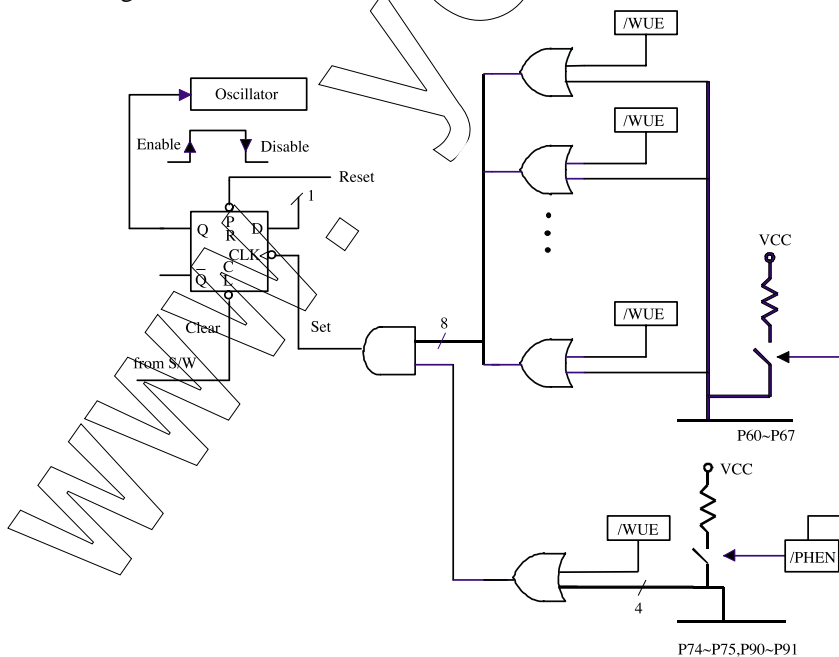

Fig. 5 Block diagram of sleep mode and wake-up circuits on I/O ports
- Bit 4 (SLPC) This bit is set by hardware at the falling edge of wake-up signal and is cleared in software. SLPC is used to control the operation of oscillator. The oscillator is disabled (oscillator is stopped, and the controller enters the SLEEP2 mode) on the high-to-low transition and is enabled (the controller is awakened from SLEEP2 mode) on the low-to-high transition. In order to ensure the stable output of the oscillator, once the oscillator is enabled again, there is a delay for approximately 18 ms (oscillator start-up timer, OST) before the next instruction of program being executed. The OST is always activated by wake-up from sleep mode whether the Code Option bit WTC is "0" or not. After waking up, the WDT is enabled if Code Option WTC is "1". The block diagram of SLEEP2 mode and wake-up caused by input triggered are depicted in Fig. 5. The SLPC bit can be read and written.